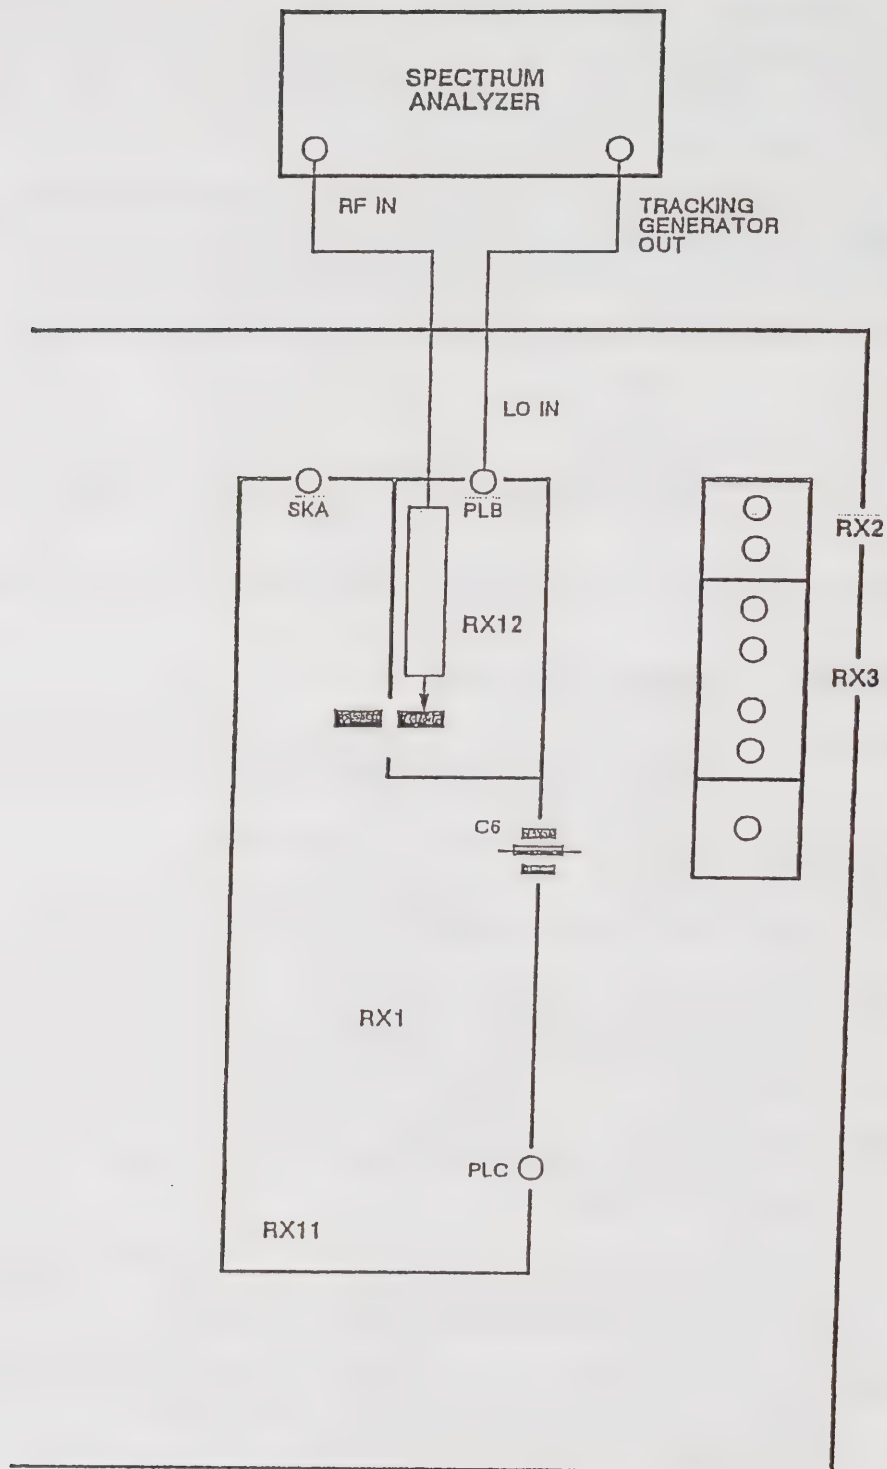
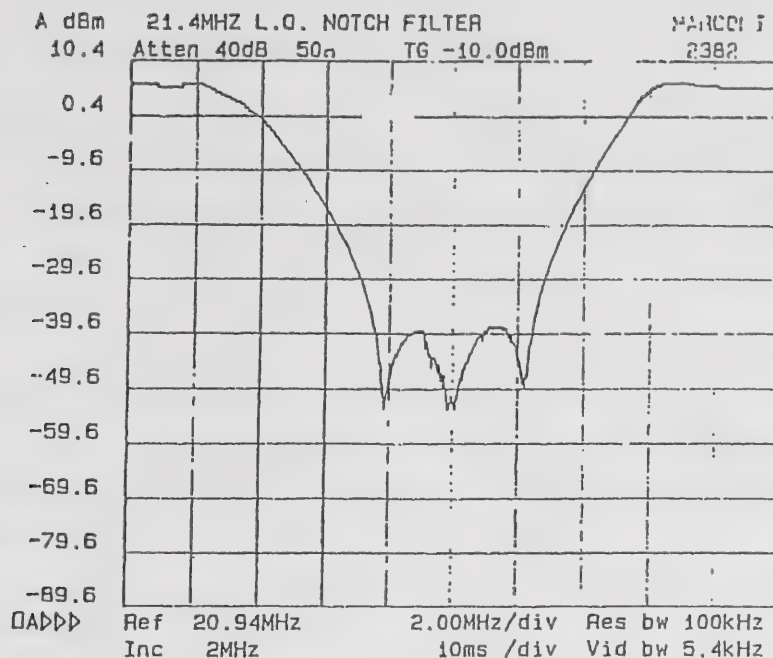

Fig. 3-15 Connections for adjustment of 21.4 MHz LO notch filter
Fig. 3-16 Response of 21.4 MHz LO notch filter
- (1) Remove the interconnecting link between RX12 and RX11.
- (2) Connect the tracking generator output to the LO input of RX12 at the SMC plug PLB. Using the active probe, connect the spectrum analyzer RF input to the signal output of RX12 at the interconnecting link position. See Fig. 3-15. Earth the probe on the wall of the tray or on the adjacent pad.
- (3) On the 2955B, set the MODE to TRANSMITTER MONITOR. Check that the TRANSMITTER TEST FREQUENCY is 300 MHz (to ensure that the notch filter is in circuit).
- (4) On the spectrum analyzer, set the centre frequency to 21.4 MHz, span to 2 MHz/division, reference level to 0 dBm, span to 10 dB/division, resolution bandwidth to 100 kHz and tracking generator on.
- (5) Use L1, L2, L3 and L4 as necessary to tune the notch filter as shown in Fig. 3-16. L1 and L4 (pink) affect the notch depth, L2 (green) affects the LF slope and L3 (yellow) affects the HF slope.
- (6) When the filter has been set, replace the interconnecting link between RX12 and RX11.